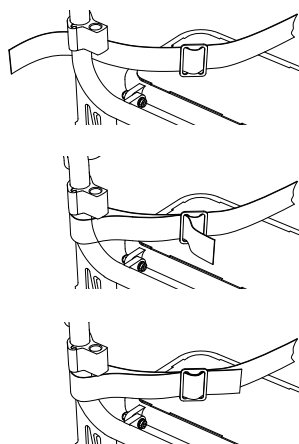

Fig. 28
1. The belt is secured to the backrest tube on the left and right. (Fig. 28).